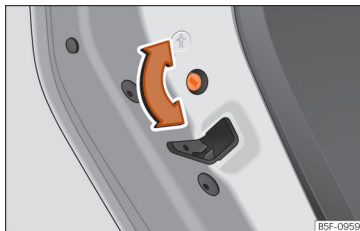

Fig. 124 Childproof lock on the left hand side door.
- With the door open, rotate the groove in the door using the ignition key, clockwise for the left hand side doors »» Fig. 124 and anti-clockwise for the right hand side doors.
- With the door open, rotate the groove in the door using the ignition key, anti-clockwise for the left hand side doors »» Fig. 124 and clockwise for the right hand side doors.